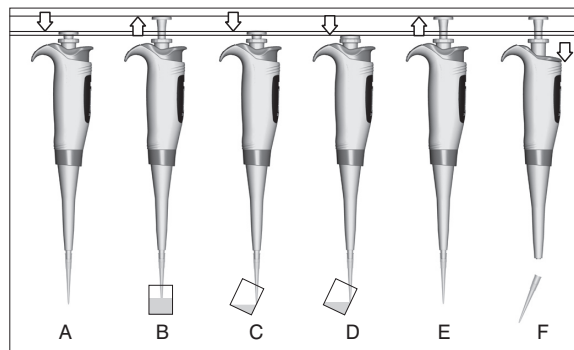

Fig. 4
- Wait for about 1 second before withdrawing the tip from the aspirated sample (fig. 4).